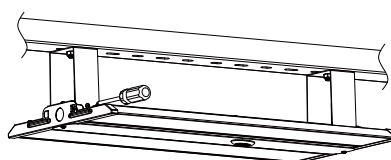

Figure 6
Step2.Assemble the lamp on the bracket and fix it with screws (Figure 6);